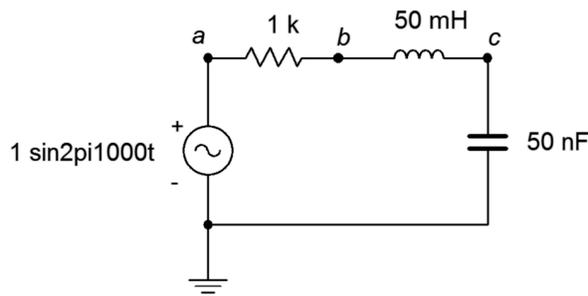

Figure 2.19
33. For the circuit of Figure 2.19, determine the circulating current and the voltages across each component.
62. For the circuit of Figure 2.19, determine a new frequency such that  $|X_C| = |X_L|$ .